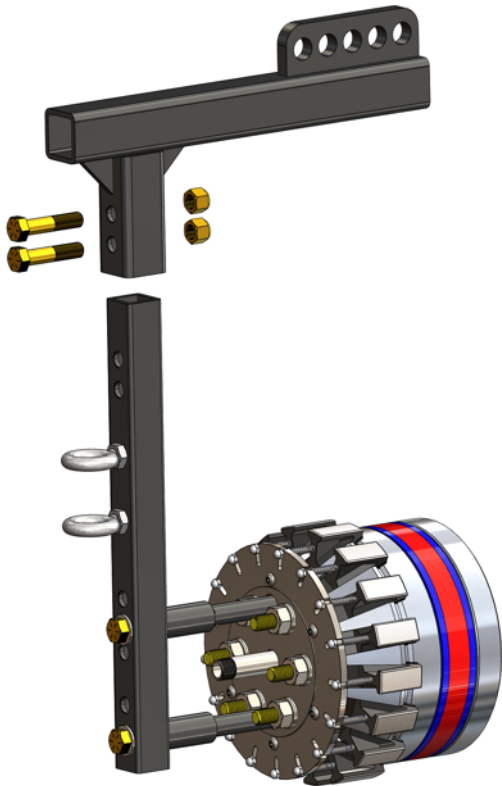

Figure 23: Aligning and Fastening Telescoping Lifting Attachment onto Universal Lifting Bar
- 12.4 Fasten the **Telescoping Lifting Attachment(25)** with the provided **Lifting Device Bolts(27)** and **Nuts(29)** through the aligned holes in step 12.3. See Figure 23.